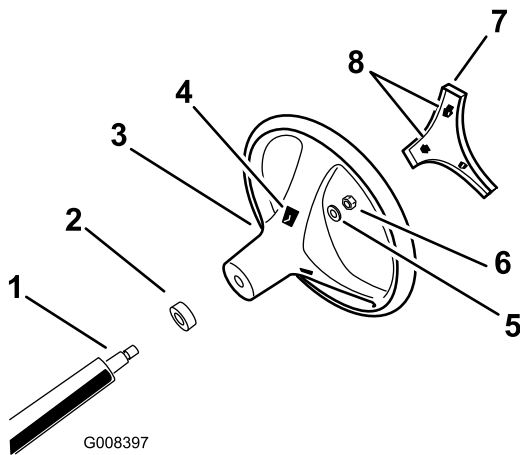

Figure 3
1. Through the openings in the back of the steering wheel, release the lock tabs of the center cover and remove the cover from the wheel (Figure 3).
2. Remove the locknut and washer from the steering shaft (Figure 3).
3. Align the steering wheel onto the splines of the steering shaft (Figure 3).
4. Assemble the washer and locknut threads of the steering shaft (Figure 3).
6. Align the lock tabs of the center cover to the openings in the steering wheel and press the cover into the wheel until the locks tabs snap into place (Figure 3).